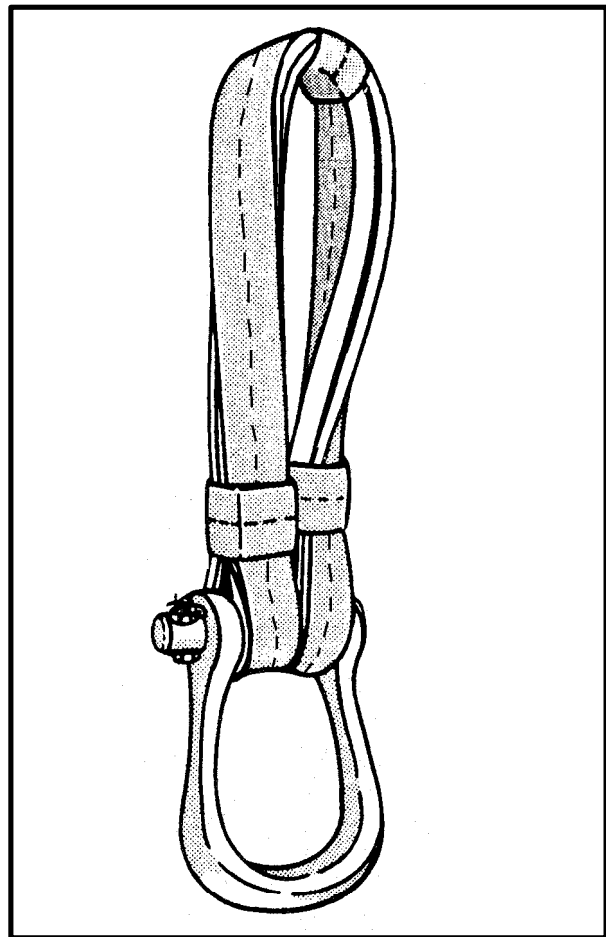

Figure 6-3. Three-foot Sling, Basket-Hitched on Apex Fitting for UH-1
(1) The pin on both apex fittings is secured with a 3/8-inch bolt and a castellated nut and cotter pin.
(2) The castellated nut and a cotter pin are a more positive means of securing the bolt since the cotter pin is easily visible. Tighten the nut until the cotter pin can be placed through a castellation in the nut and the hole in the bolt. Spread the ends of the cotter pin apart to keep the nut from loosening.
(3) The apex fitting pin is placed directly onto the cargo hook, except for the UH-1. A 3-foot nylon aerial delivery sling or 10-inch nylon donut must be used between the sling and aircraft hook because of the unique shear pin design on the UH-1 hook. Use a basket hitch to place the 3-foot nylon aerial delivery sling on the apex fitting (Figure 6-3).
(4) All new sling sets are furnished with an improved apex fitting assembly which includes an aluminum spacer. This spacer is required on the 10,000-pound capacity apex fitting when the load is lifted by a UH-60 helicopter. The spacer prevents the apex fitting from working under and raising the spring-loaded keeper. The spacer also centers the apex fitting on any cargo hook and reduces the shock load to the cargo hook caused by